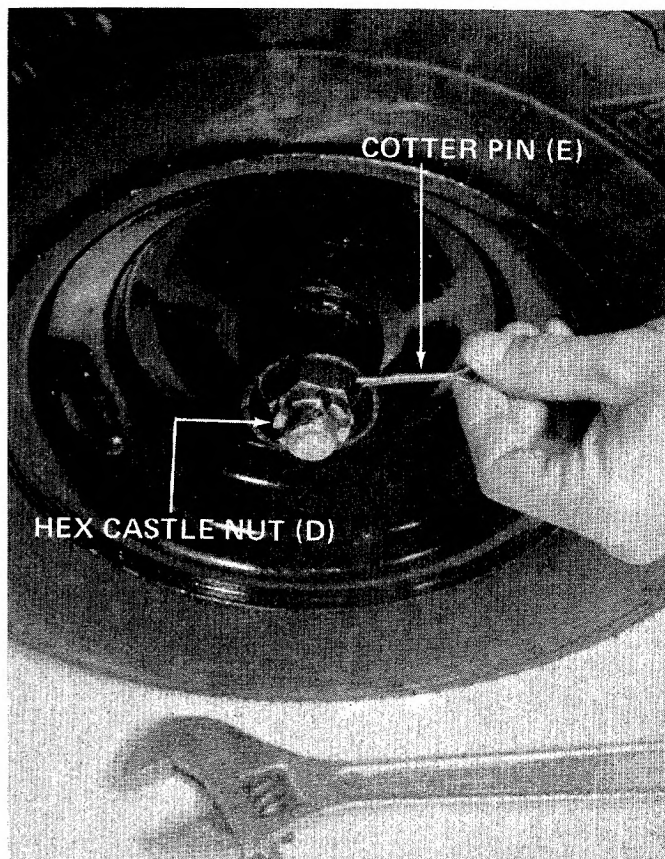

FIGURE 4
Thread hex castle nut (D) on axle. Tighten castle nut until snug, back off approximately 1/3 turn or until one of the slots on the castle nut lines up with hole in axle. Secure castle nut to axle with cotter pin (E). See figure 4.